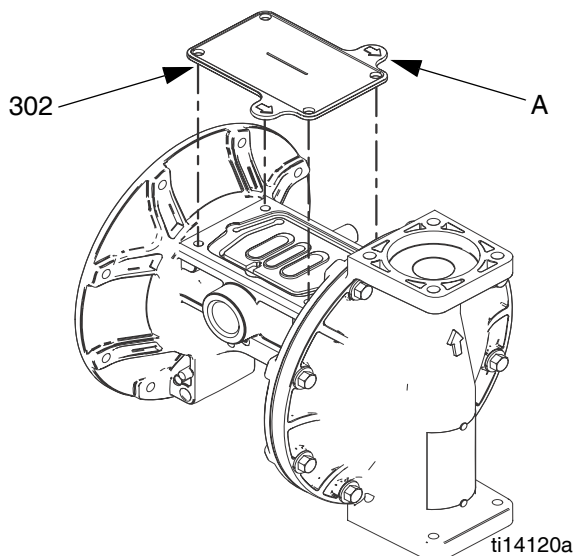

FIG. 8. Fluid cover tool
- c. Grease the shaft u-cups (106) and the length and ends of the diaphragm shaft (104). Slide the shaft into the housing.
- f. Reattach the first fluid cover (3). See **Torque Instructions**, page 17.
- a. See FIG. 8. Place the supplied tool (302) where the air valve gasket (108) normally goes. Arrows (A) must face toward the fluid cover that is already attached.